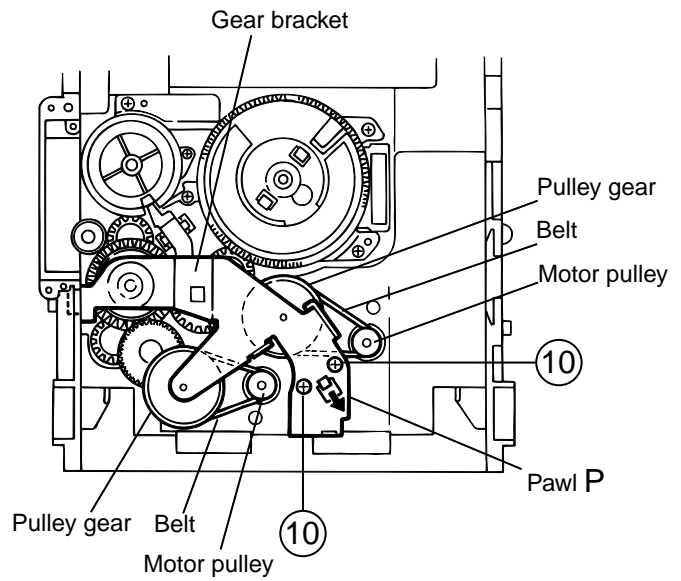

Fig.19
■ Removing the actuator motor and belt (See Fig.19~22)
1. Remove the two screws 10 retaining the gear bracket (See Fig.19).
2. While pressing the pawl "P" fixing the gear bracket in the arrow direction, remove the gear bracket (See Fig. 19).
4. Remove the belts respectively from the right and left actuator motor pulleys and pulley gears (See Fig. 19).